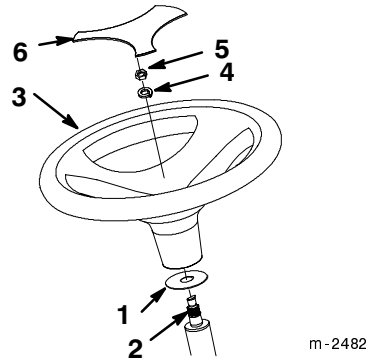

Figure 2
1. Install the boot washer onto the steering shaft (Fig. 2).
2. Remove the plastic trim cover from the steering wheel (Fig. 2)
3. Install the steering wheel onto the shaft, carefully aligning the splines (Fig. 2).
4. Secure the steering wheel to the shaft with a lock washer and nut (Fig. 2). Tighten the retaining nut to 45-50 ft-lbs.